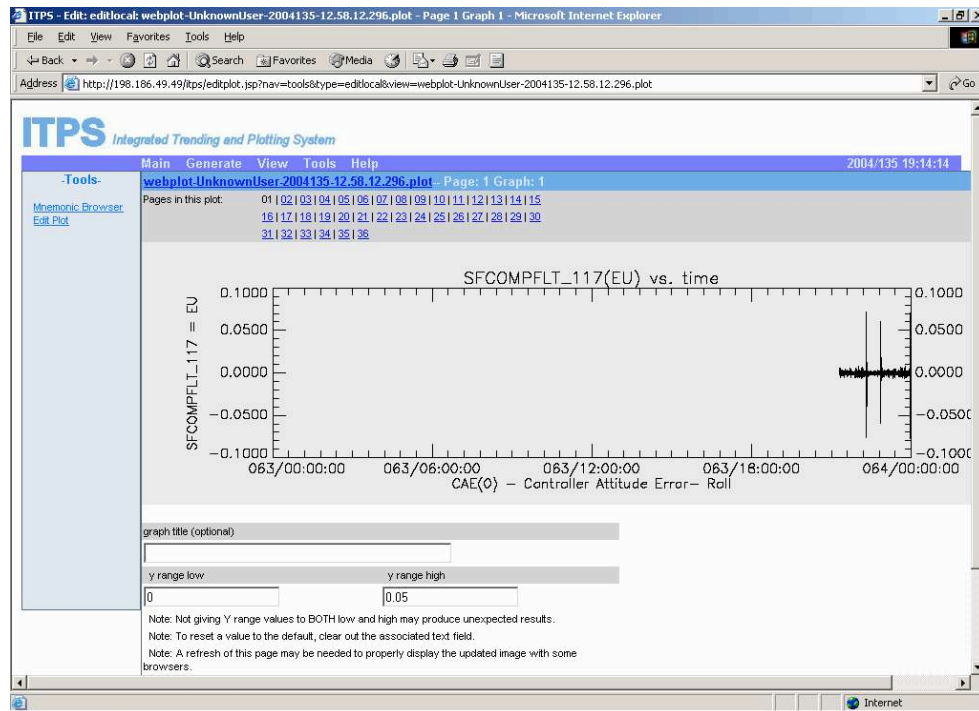

Figure 135: Edit Web Plot Screen
- Enter the new (optional) title and new Y Axis high and low scales (see *Figure 135*)